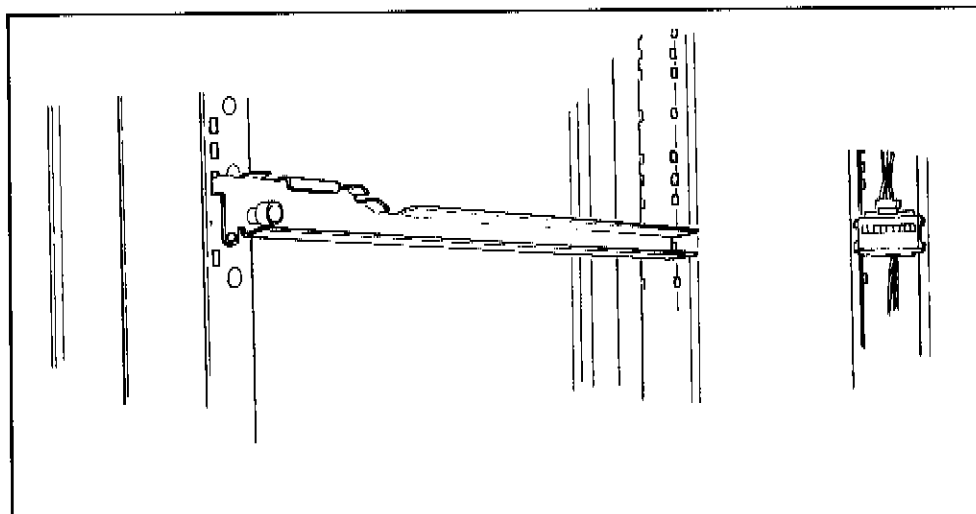

Figure S-13a
2. Remove the screw that secures the Left Tray-Guide to the Front Guide-Mounting Channel. See Figure S-13a.
8. Replace the screw that secures the Guide Rail to the Front Guide-Mounting Channel. See Figure S-13a.
10. Disconnect the Harness from the Receptacle Block. See Figure S-13a.